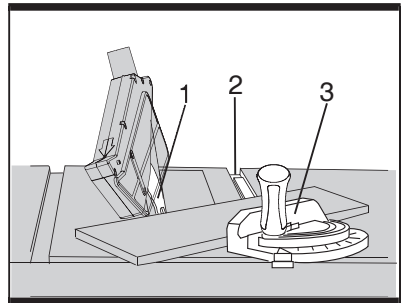

Fig 22
**Warning:** Always work to the right side of the blade during this type of cut. The mitre gauge (3) must be in the right side groove because the bevel angle may cause the blade guard to interfere with the cut if used on the left side groove. When tilting the workpiece to 45° and push it toward the blade, the blade guard may hit the blade. To avoid injury, stop the work at that time.
- 1) Set the mitre gauge (3) to the desired angle.
- 2) Place the mitre gauge (3) in the right side groove (2) of the table.
- 3) Set the blade (1) bevel to the desired bevel angle and tighten the blade bevel lock knob.
- 4) Hold workpiece firmly against the face of the mitre gauge (3) throughout the cutting operation (See fig. 22).